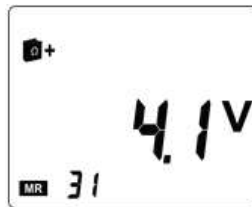

Figure 6-15
- Figure 6-15 illustrates a contact voltage measurement (product Zxl).